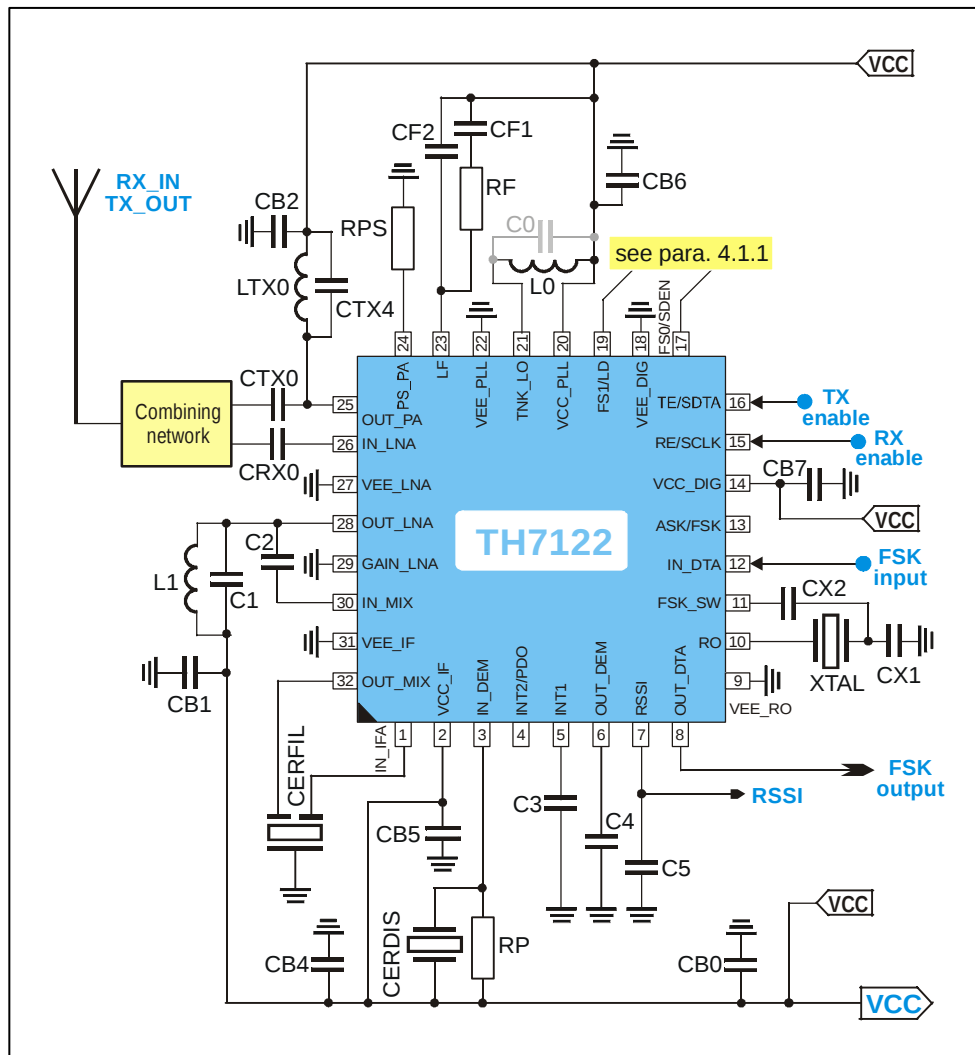

Fig. 15: Test circuit for FSK operation in Stand-alone User Mode
7.3 FSK Test Circuit Component List (Fig. 14 and Fig. 15)